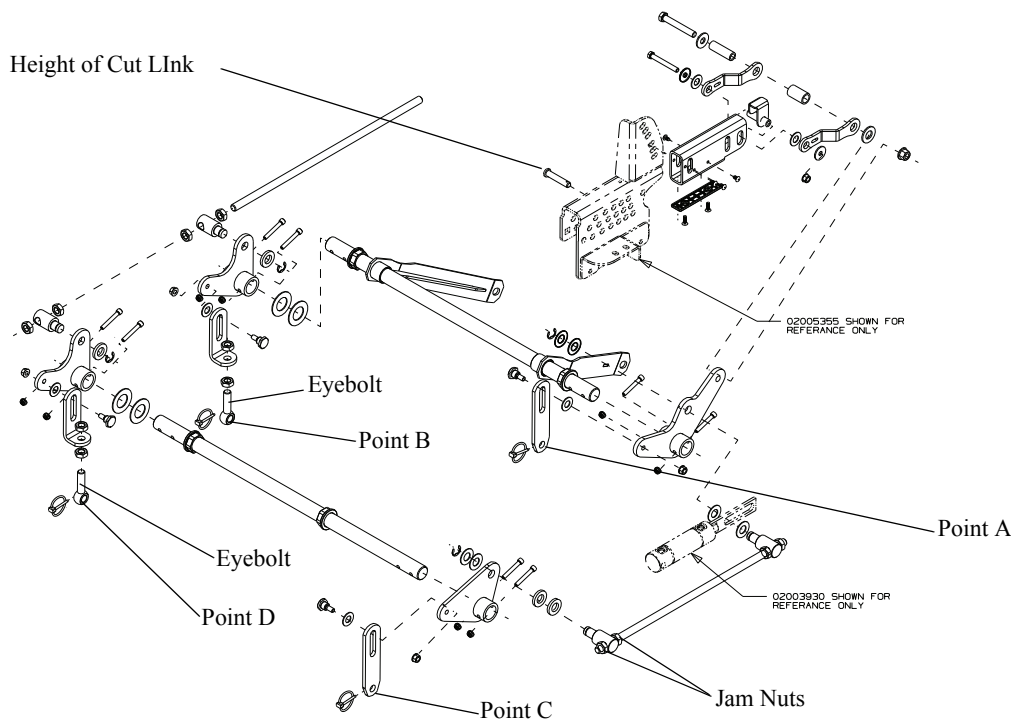

Figure. 13
11. Once the deck is level one may find that the height of cut does not match the height of cut indicator. A final adjustment may be made by lowering or raising the height of cut link accordingly. To raise the deck: remove the shoulder bolt mounting the height of cut link to the lift handle and reassemble the shoulder bolt in the lowest of the three holes. To lower the deck: remove the shoulder bolts mounting the height of cut link, flip the height of cut link around and reassemble the shoulder bolts in the top of the set of three holes and the bottom hole. (see Fig. 13)